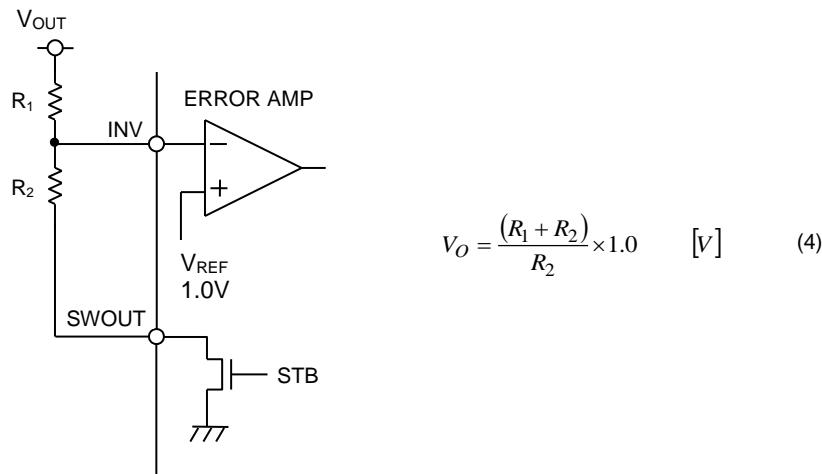

Figure 34. Setting of Voltage Feedback Resistance
(3) Output Voltage Setting
The internal reference voltage of the ERROR AMP is 1.0V. Output voltage is obtained by Equation (4) of Figure 34, but it should be designed taking into consideration the NMOS ON-Resistance of SWOUT (about 50Ω).